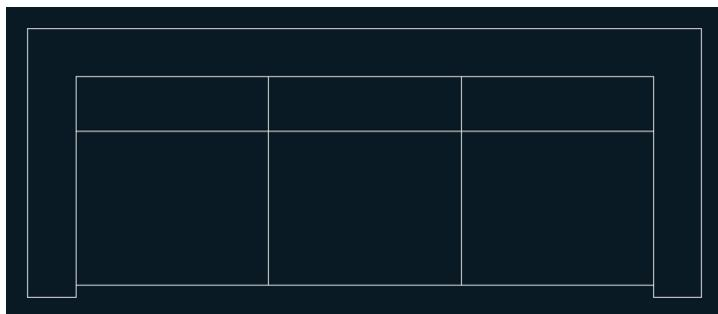

FIGURE 9.6 Redesigned sofa drawing
12. Press the spacebar to repeat the **FILLET** command. Click the outer line on the left arm of the sofa, and then click the top back line. The sofa redesign is complete (see Figure 9.6).
Open Sofa2.dwg (see Figure 9.6).